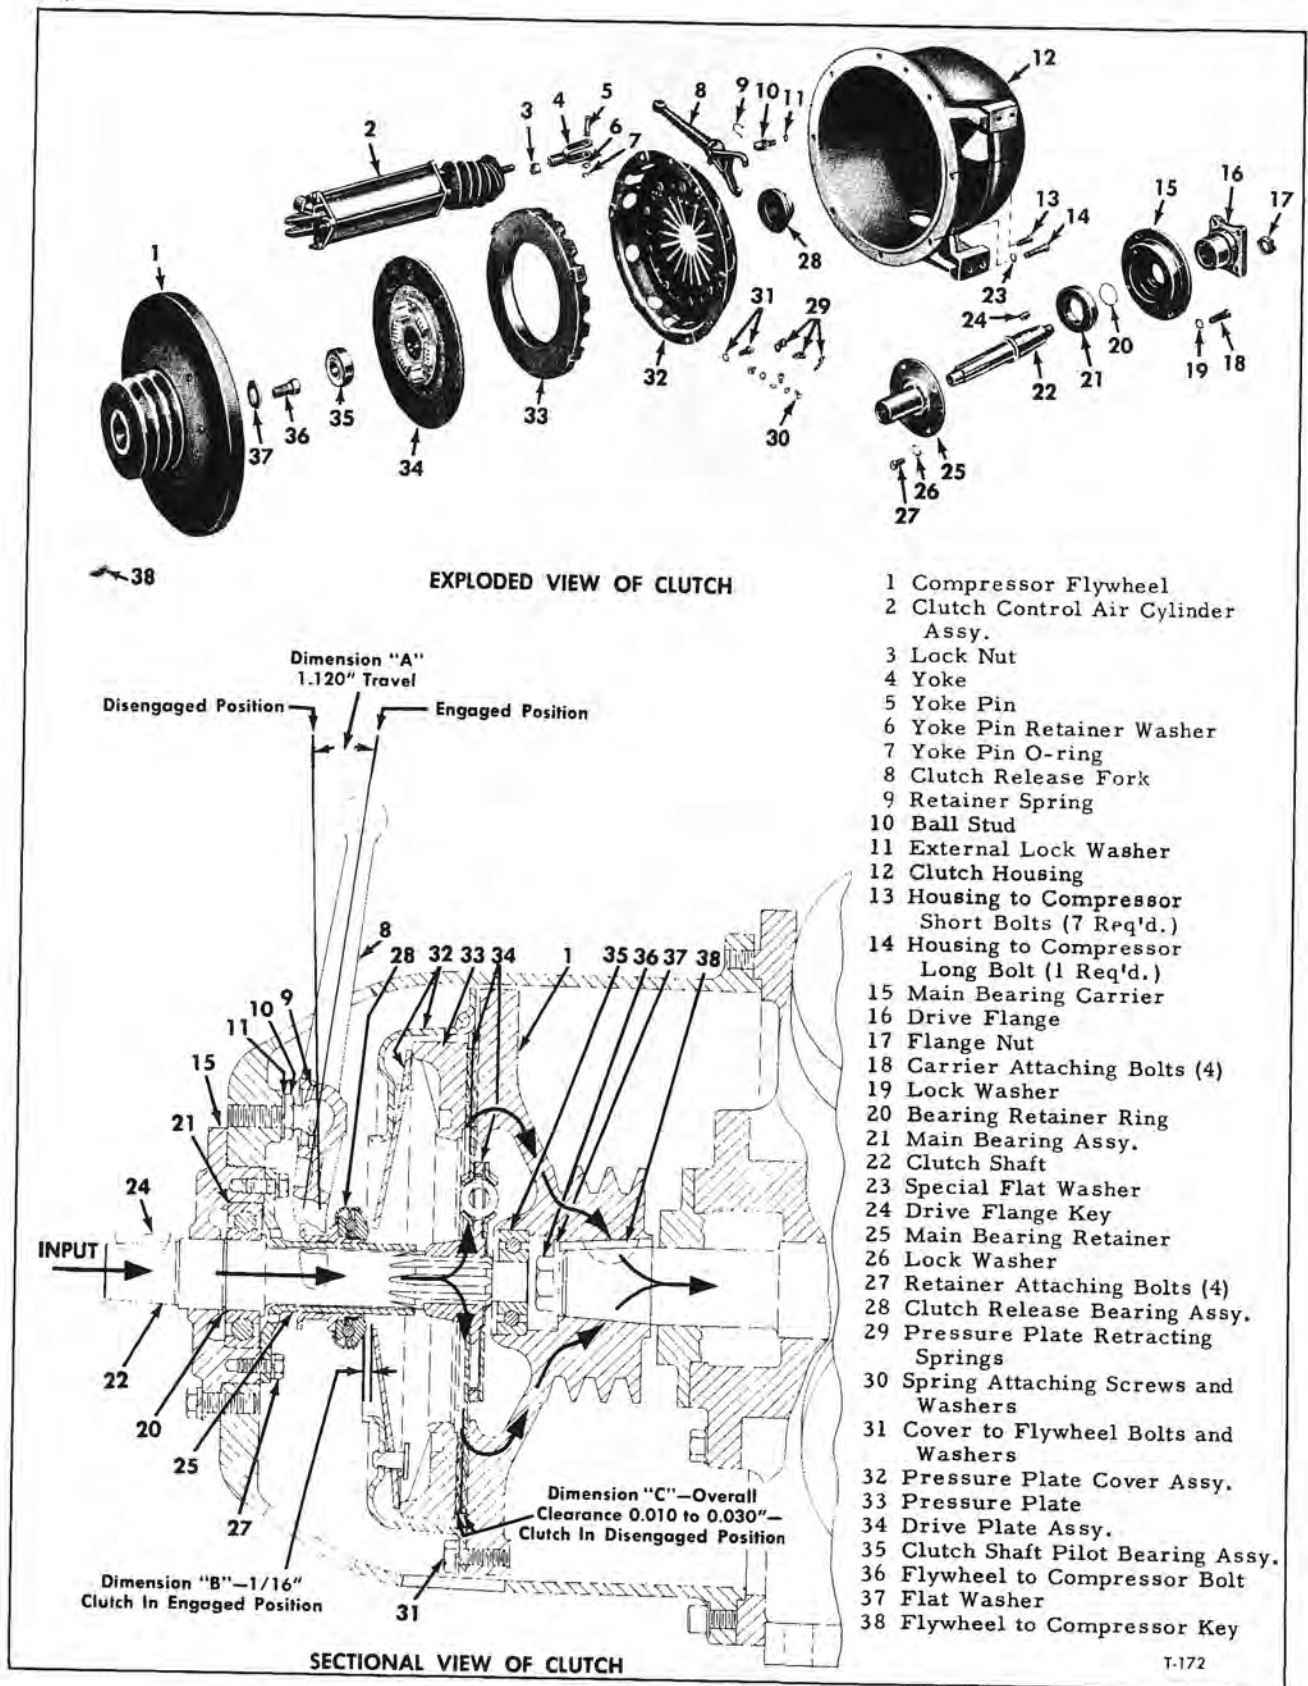
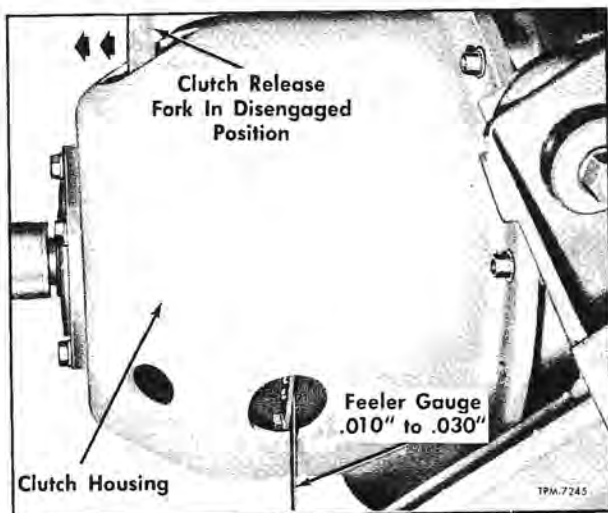
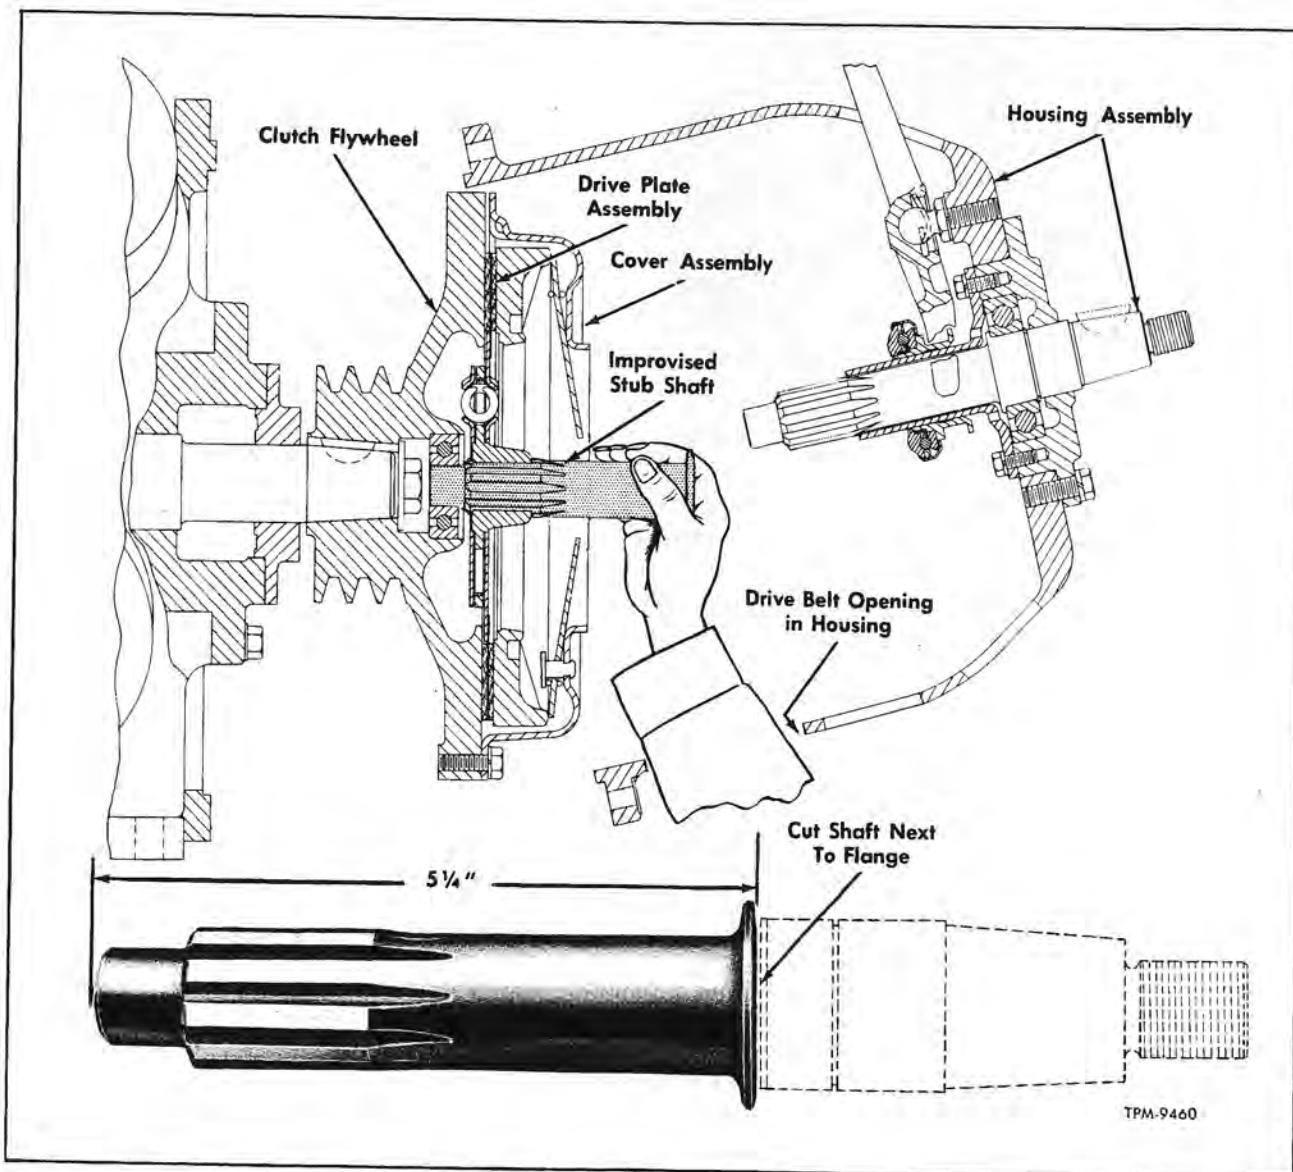

Figure 95—Compressor Drive Clutch Components
Figure 96—Checking Clutch Drive Plate Clearance
Figure 101—Installing Clutch Drive Plate and Cover Using Alignment Tool (Compressor in Coach)
pressure from clutch cover spring causing clutch to become engaged. Lower view of figure 95 shows clutch in the engaged position, air pressure applied. The upper view of figure 95 shows disassembled components of clutch.
Before placing system in season operation and at periodic chassis lubrication intervals, the clutch release bearing surface of retainer, item 25, figure 95 and the pin at each end of clutch air cylinder should be lubricated. Access to the bearing retainer can be obtained by removing the compressor compartment dust shield and using a small long-handled brush to reach into access hole to underside of clutch housing. Use grease containing zinc oxide.
At regular intervals the over-all clearance between the clutch driven plate, the pressure plate, and the compressor flywheel (dimension "C" fig. 95) should be checked. Clearance should measure 0.010" to 0.030". This is accomplished as follows: With clutch disengaged, air cylinder push rod extended, measure plate clearance through hole in bottom of clutch housing and one of the holes in pressure plate cover (fig. 96). Clutch cover must be rotated so that holes will line up to insert feeler. If clearance is not as specified, make adjustment as follows:
With clutch in the engaged position (air pressure applied), release bearing should clear the Belleville spring by at least 1/16 inch (dimension "B," fig. 95). If there is less than 1/16 inch it means that more stroke is being applied to spring than is necessary to get .010-.030 inch plate clearance. Distance of release bearing from Belleville spring can be checked by removing pin through yoke and release fork and swinging bearing against spring by hand. Then gradually move bearing away from spring, observing distance the outer end of release
The compressor drive clutch (fig. 95) enclosed by an aluminum housing is mounted to drive end of compressor. Clutch is of the conventional automotive type and is actuated by an air powered cylinder assembly mounted to side of compressor.
The clutch input shaft, which is propeller shaft driven from engine accessory drive is engaged directly to the clutch drive plate assembly. Thus the drive plate is turning whenever the coach engine is running. When clutch is engaged by action of the air cylinder, the Belleville spring of clutch pressure plate is released. This action releases pressure plate to engage both drive plate and compressor flywheel to turn the compressor. Large arrows on figure 95, indicate the power flow from the drive shaft input through the clutch to the compressor.
**IMPORTANT:** One special tool, which can be improvised locally is necessary for making these replacements. **DO NOT ATTEMPT TO MAKE REPLACEMENTS UNLESS THIS TOOL IS AVAILABLE.** Tool is used for holding drive plate in alignment when installing cover assembly to clutch flywheel. Cut off a portion of an old clutch shaft (22, fig. 95) at a point shown in figure 101. Same like part can be made up from an old Chevrolet mechanical transmission main drive (clutch) gear.
7. Spring-loaded clutch cylinder (2, fig. 95) must be disconnected from clutch release fork (8, fig. 95). In order to remove fork connecting pin
(5, fig. 95), disconnect cylinder air line hose at air control solenoid valve, then apply shop air pressure through hose into air cylinder (min. air pressure required - 65 lbs.). This action will relieve pressure on cylinder yoke pin, allowing pin to be removed.
10. Remove socket head bolts (13 and 14, fig. 95) which attach clutch housing to compressor. Using two of these screws installed into tapped holes, one at top, and bottom of housing, separate housing evenly from compressor.
2. Using improvised stub shaft as shown in figure 101, insert shaft into splines of drive plate and then into pilot bearing within clutch flywheel.
NOTE: Install longer attaching bolt at location shown in figure 95. See item 14.
6. Apply shop air pressure to clutch control air cylinder, then install cylinder to release fork clevis pin, pin (washer) retainer, and rubber O-ring (5, 6, and 7, fig. 95). Attach cylinder air line to air control solenoid valve.